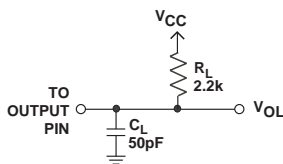

Figure 1a Load Circuit for  $\overline{BUSY}$  Timing Diagram
5This is measured with the load circuit of Figure 1a.
- 5This is measured with the load circuit of Figure 1a. Specifications subject to change without notice.